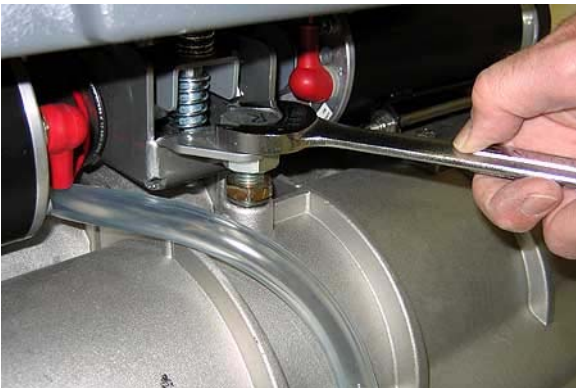

FIG. 53
2. To level the scrub head, loosen the lock nut and turn the leveling screw clockwise to lower the rear of the scrub head or counter-clockwise to lower the front (Figure 53).